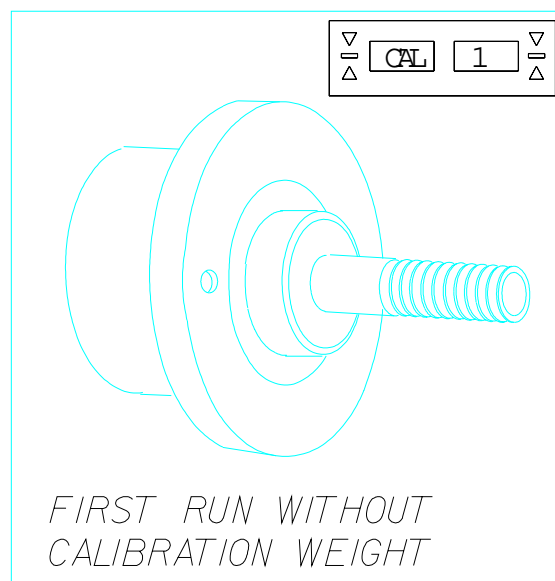

Figure 9
- Press "START", the machine will spin the shaft for several seconds. On completion of the run the machine stops automatically and Cal 2 is displayed. Figure 9